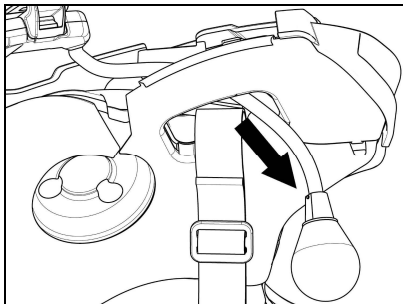
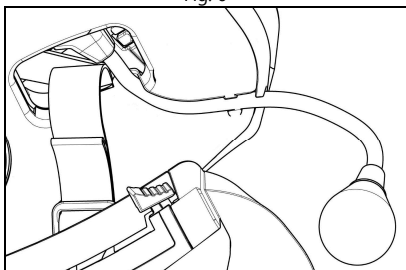

Fig. 7
Fig. 8
- Insert the microphone into the eyelet (Fig. 7) and position it in the special housing, then inserting the metal boom in the groove found in the chin guard coupling frame (Fig. 8)